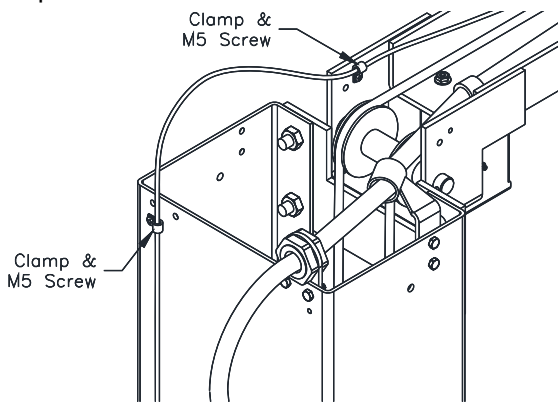

Fig. 9 – Lock Cable Routing
- 30) Secure Lock Release Cable at the top of each column extension as shown in **Fig. 9**. Lock Release Cable should be routed on the opposite side of the Overhead Beam as the Idler Hose to prevent interference.